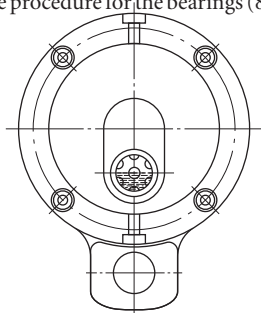

Figure 1 / Figura 1
- For backstops design 255, the screw (12) located on the top of the lid (2) should be removed and the lubricating oil should be poured until the oil level reaches the half of the oil level glass (16) (see figure1).